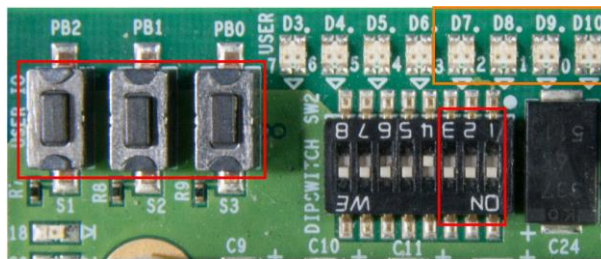

Figure 4-11 BUTTON/SWITCH/LED on A10GFP
8. Observe LED0 and LED1 as shown in **Figure 4-11**. If two LEDs are lit, it means the two channel 12G SDI loopback test passed.
9. Set the SW2.1 dip switch to down as shown in **Figure 4-11** and observe LED2. If the LED is lit, it means the 3G SDI Loopback test passed. Then, set the SW2.1 dip switch to the up position, and observe the LED3 to check whether the 3G SDI loopback test passed in